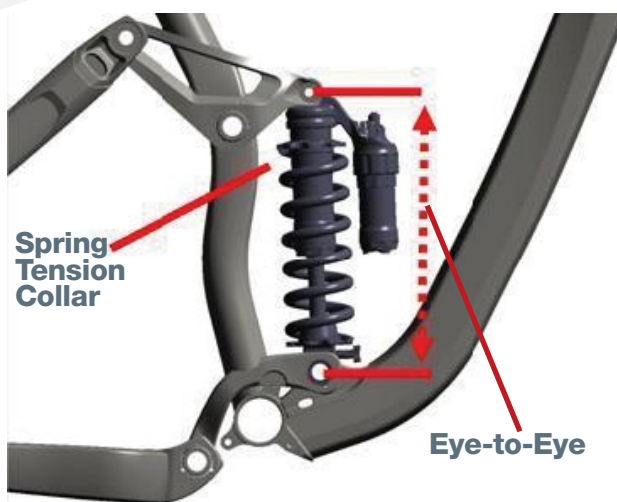

Fig. 1: (Model: Faith)
1. Turn the spring tension collar counter clockwise until there is minimal tension on the spring (figure1).
3. Position the bicycle next to a wall so that the rider can sit on the bike with both feet on the pedals while steadying themselves with one arm. Have them gently sit on the saddle without bouncing. Measure the eye-to-eye distance while they're seated on the bike (Figure 1). Get the rider to dismount.